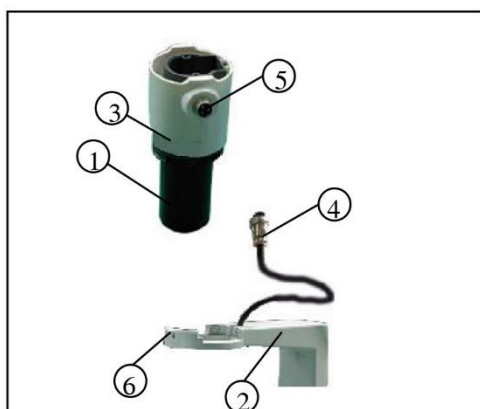

Figure 4
2.2.2. Installing the condenser illumination unit (Figure 4)